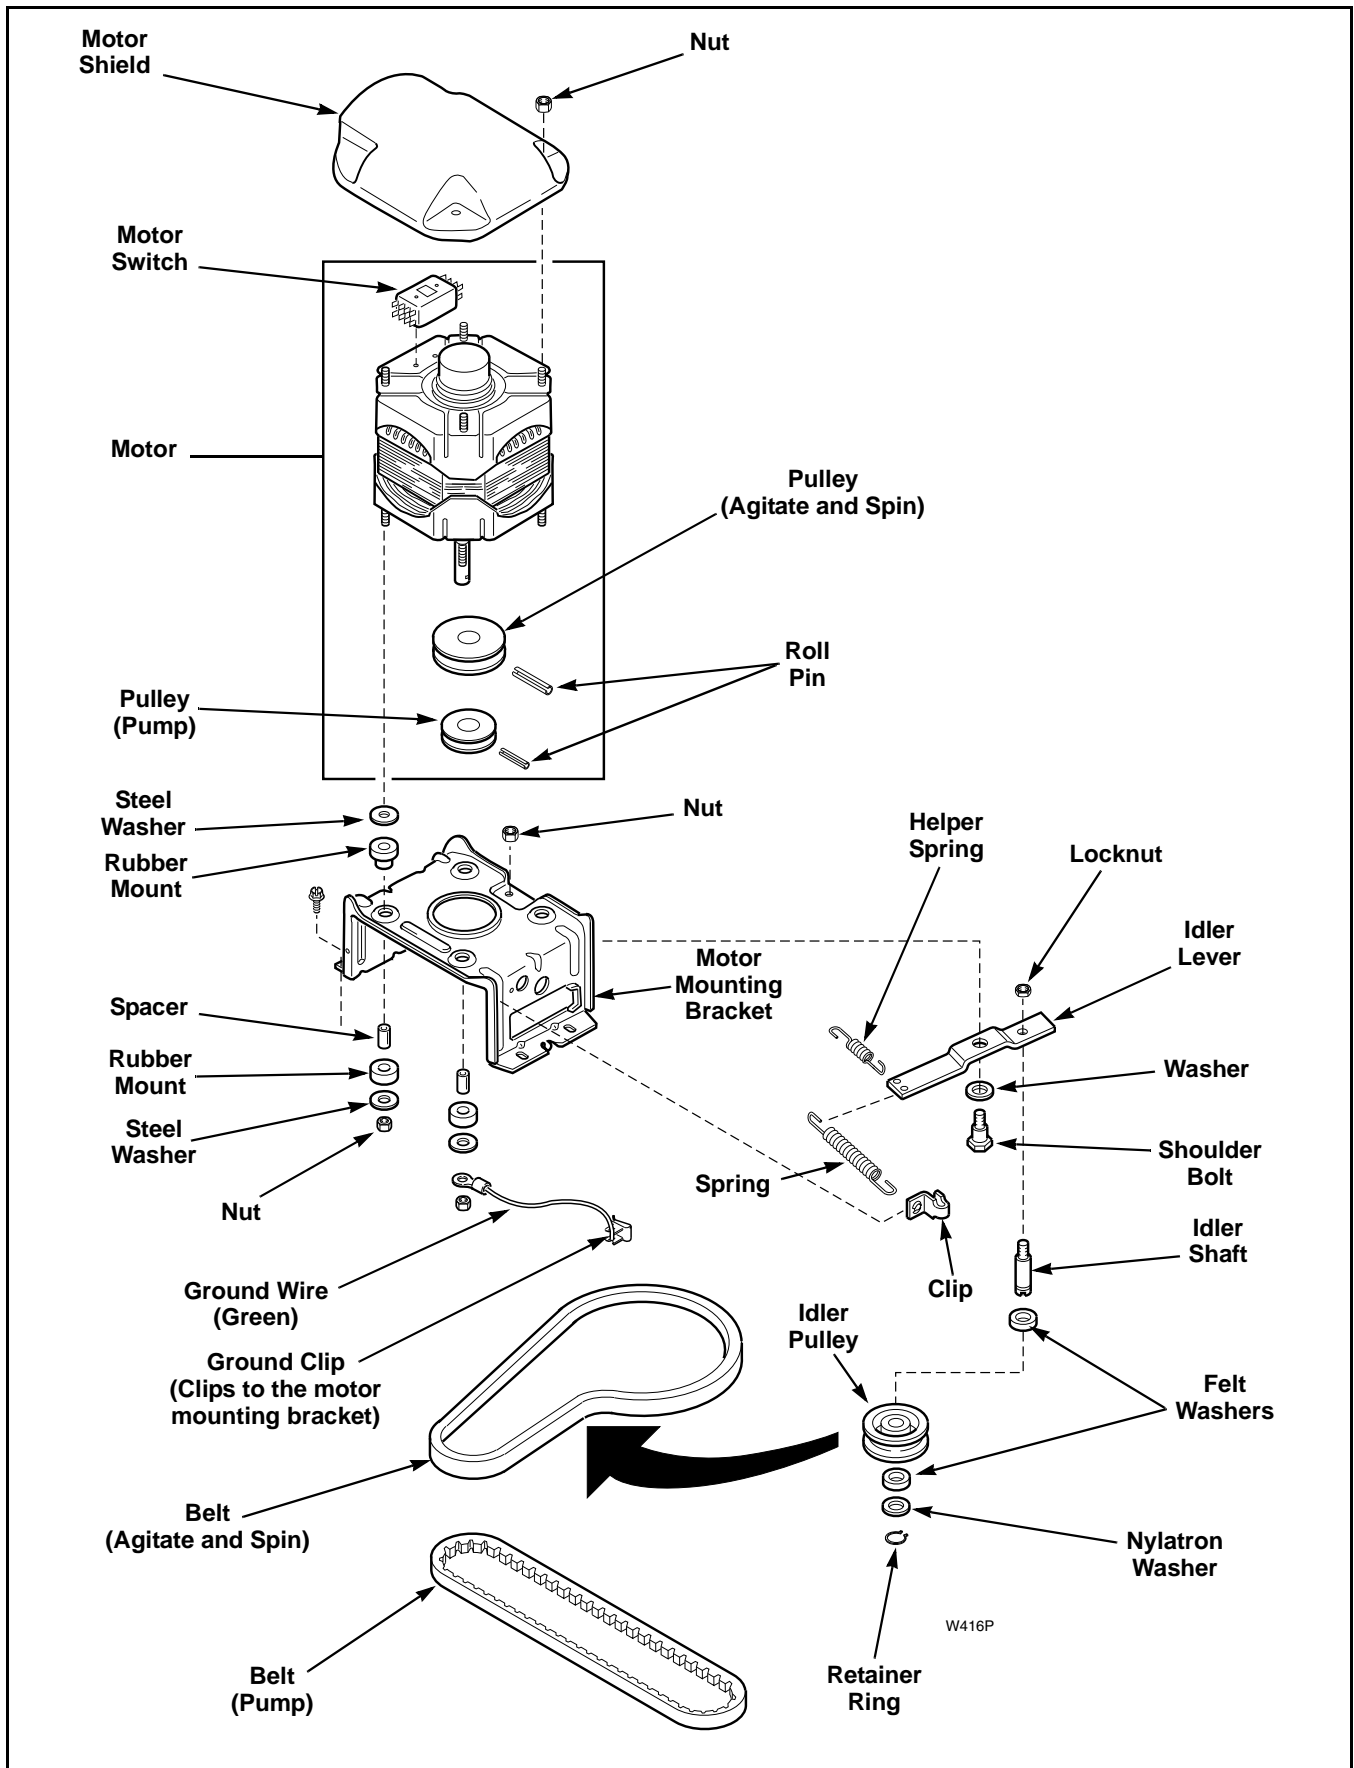

Figure 25
- Remove nuts, steel washers, spacers and rubber mounts holding motor to mounting bracket. Refer to *Figure 25*. Lift motor off mounting bracket and remove balance of rubber mounts and steel washers from motor mounting studs.
**NOTE:** Refer to *Figure 25* for motor and mounting bracket assembly sequence.
**NOTE:** Refer to *Figure 25* for idler lever and pulley assembly sequence.
- b. Remove nut holding motor shield to motor. Refer to *Figure 25*.
- d. Remove two screws holding switch to motor. Refer to *Figure 25*.